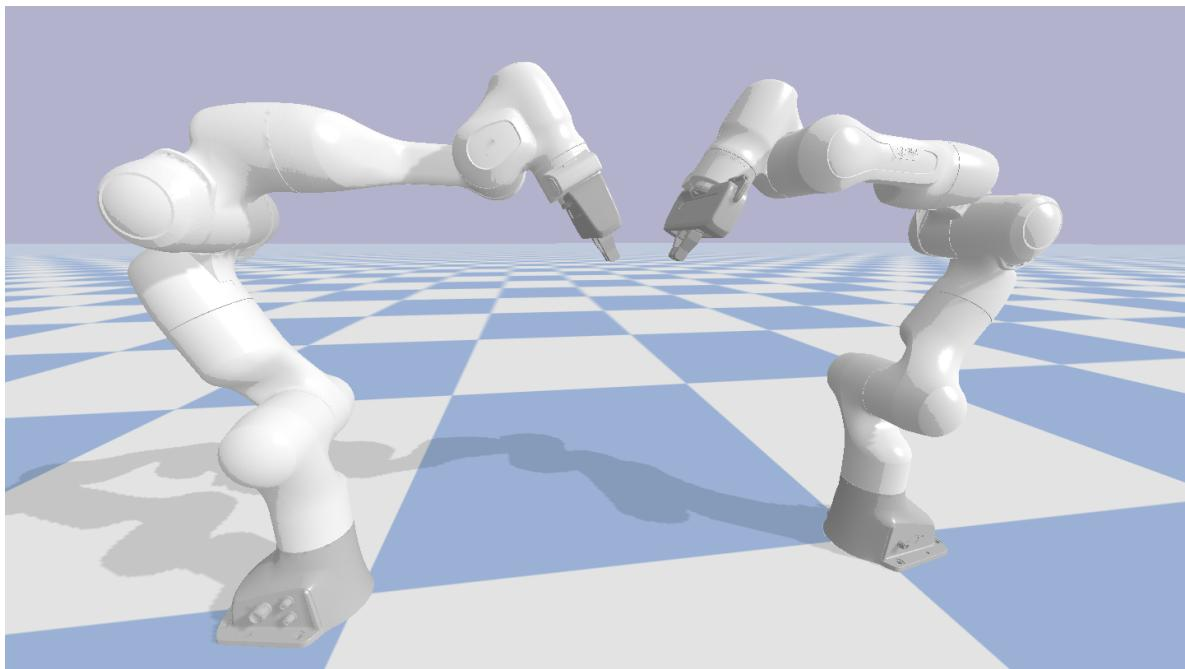

Figure 3: Robot configurations for grasping the object
2. The first phase foresees to move the tool frame of both manipulators to the grasping points, by implementing the *Tool* equality task, defined as a class inside the *Tasks* folder. Define the goal frames for each manipulator such that their origin corresponds to the grasping points. **HINT:** the position of the grasping points can be computed by knowing the origin of the object frame wO_o and the object length l_{obj} . The goal orientation of the tool frames is obtained by rotating the tool frames 30 deg around their y-axis; the manipulators should reach the configuration depicted in Figure 3.